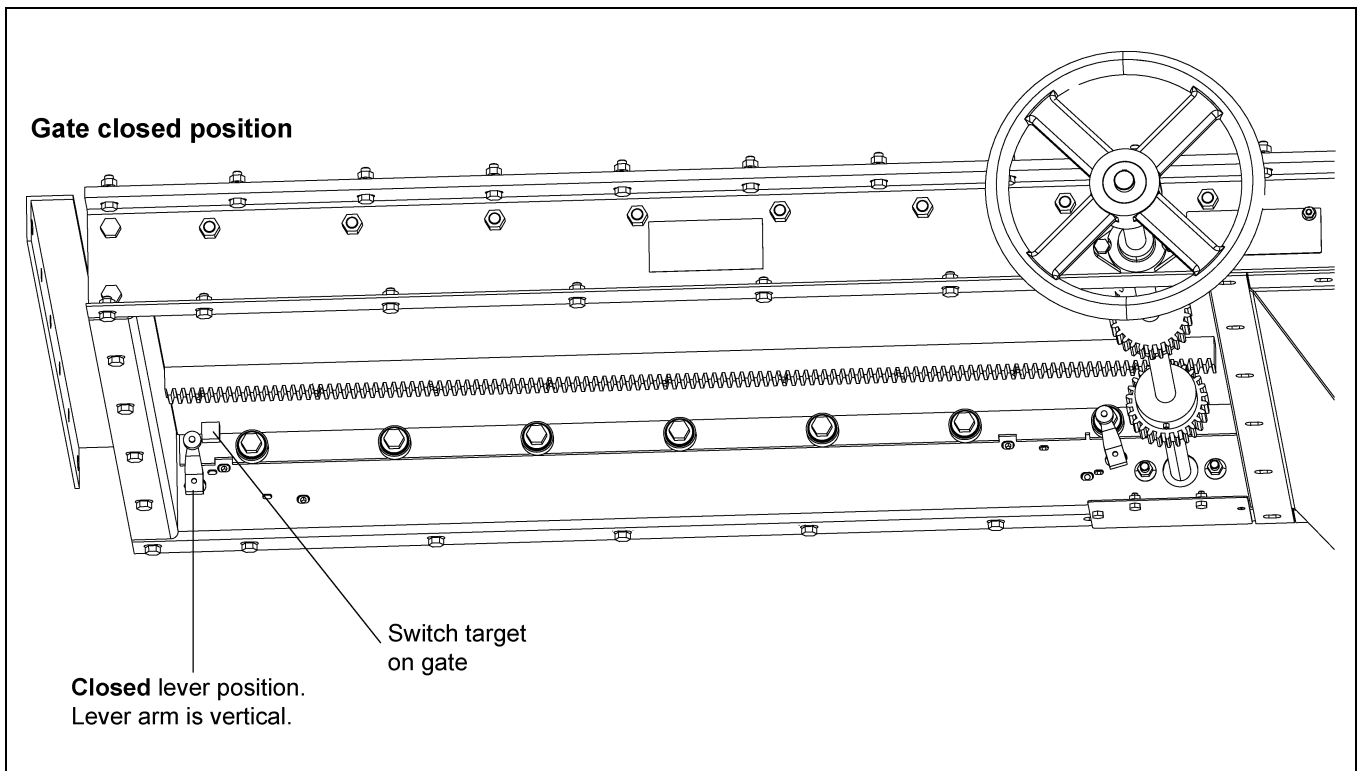
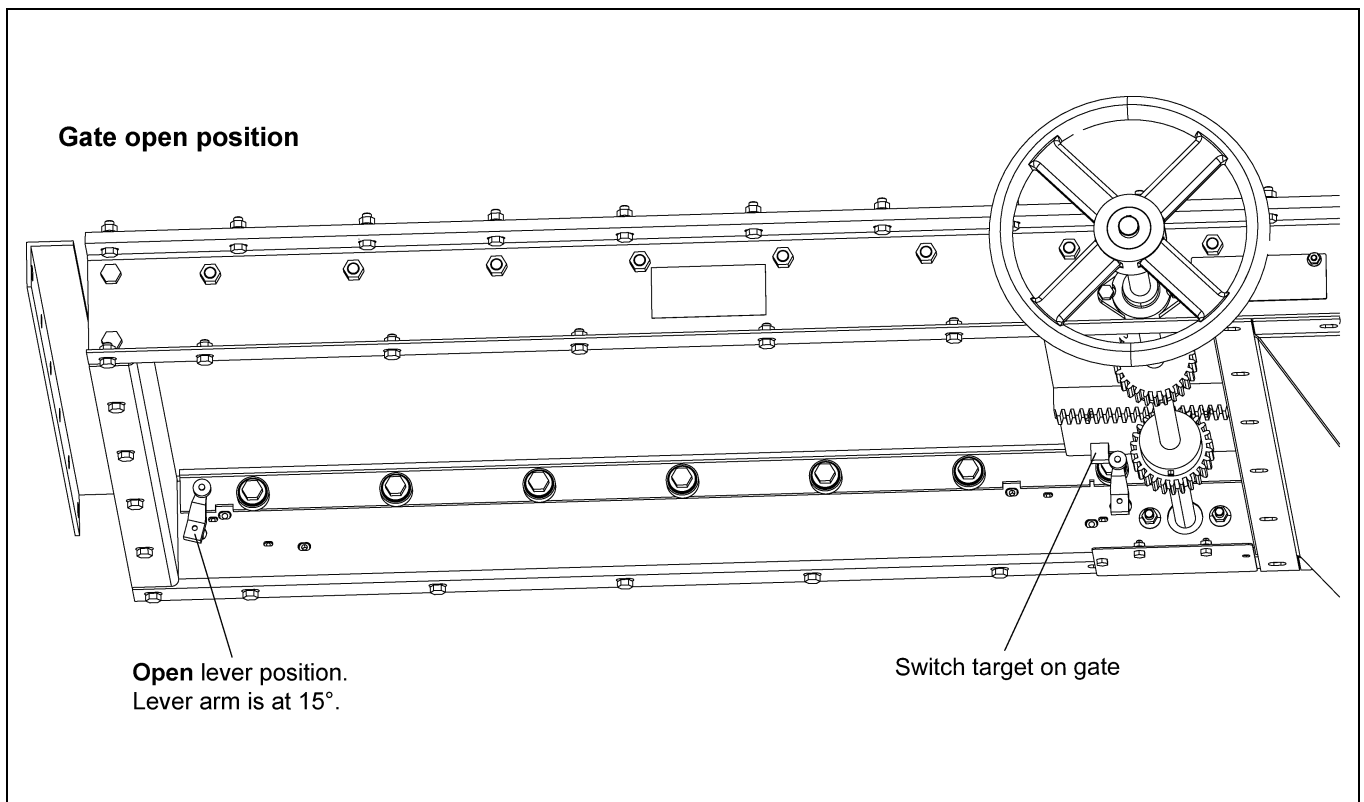

Figure 3J
Figure 3K
2. Switch levers should be installed at a 15° angle, when a lever is activated to a vertical position by a switch target, the motor will stop. (See Figure 3J below and Figure 3K on Page 15.)